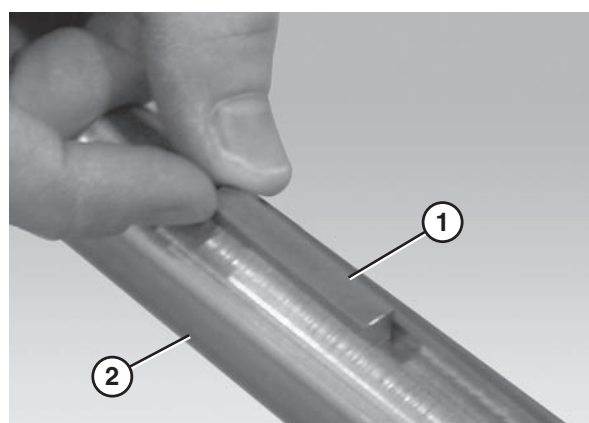

Figure 69
4. Remove the drive spindle key (Figure 69, item 1) from the drive spindle keyway (Figure 69, item 2).